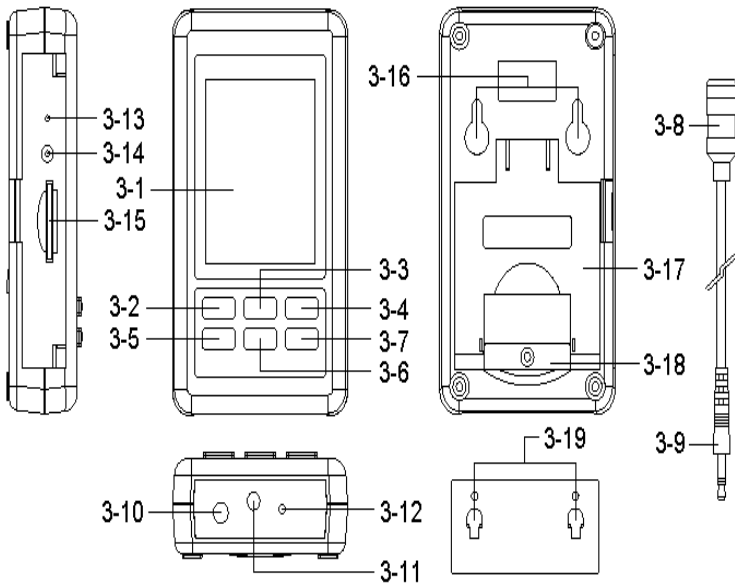

Fig. 1
- 1) Power ON the meter by pressing and holding the " Power Button " ( 3-2, Fig. 1 )for at least 1.5 seconds, the meter's default function is " A"( frequency weighting) , " Fast"( time weighting) " Auto range ". The LCD display will show the Symbol " A, FAST , xx.x dB , 0 ".
- 3) According to various measuring sound source, select the Time Weighting ( Fast or Slow ) by pressing " ENTER Button " ( 3-7 , Fig. 1 ).
- 1) In " SPL " mode to select the " **Dose** " mode by pressing and holding the " RUN button " ( 3-4 Fig 1 ) into the DOSE mode .
- 4) According to various measuring sound source, select the Time Weighting ( Fast or Slow ) by pressing the "ENTER Button " ( 3-7, Fig. 1 ).
During the SPL measurement, press the " ▲ Button " ( 3-3, Fig. 1 ) once will hold the measured value & the LCD will display a " HOLD " symbol.
1) The data record function records the maximum and minimum readings. Press the " RUN Button " ( 3-4, Fig.1 ) once to start the Data Record function and display is shown the " REC " symbol .
- a) Press the " RUN Button " ( 3-4, Fig. 1 ) once, the " REC MAX " symbol along with the maximum value will appear on the display. Press the " RUN Button" again the " REC MIN " symbol along with the minimum value will appear on the display. Press the " RUN Button" again will show the " REC " symbol only & execute the memory function continuously.
After power ON, the " LCD Backlight " will light automatically. During the measurement, press the " POWER Button " ( 3-2, Fig. 1 ) once will turn off the " LCD Backlight ".
Pressing and holding the " ENTER Button "( 3-7, Fig. 1 ) once , display is shown " LOGGER " , the " LOGGER " will flashing at the same time the measuring data along the time information will be saved into the memory circuit(EEPROM). and the top right will record items.
During execute the Datalogger function , if press the " ENTER Button " ( 3-7, Fig. 1 ) once will pause the Datalogger function ( stop to save the measuring data into the memory circuit temporality ). In the same time the text of " LOGGER " will stop flashing.
*If press the " ENTER Button " ( 3-7, Fig. 1 ) once again will execute the Datalogger again, the text of " LOGGER " will flashing .*
Press the " ENTER Button "( 3-7, Fig. 1) continuously at least two seconds, the " LOGGER " indicator will be disappeared and finish the Datalogger.
Prepare a " SD memory card " ( 1 GB to 16 GB, optional ), insert the SD card into the " SD card socket " ( 3-15, Fig. 1). The front panel of the SD card should face against the down case.
Pressing and holding the " ENTER Button ( 3-7, Fig. 1 ) once , the LCD will show the text " LOGGER ", then press the " ENTER Button "( 3-7, Fig. 1 ) once, the " LOGGER " will flashing at the same time the measuring data along the time information will be saved into the memory circuit.